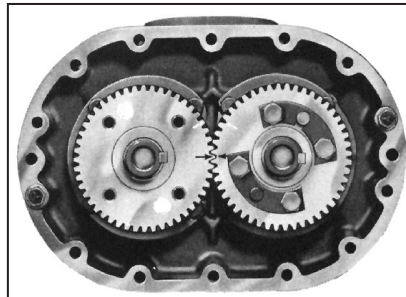
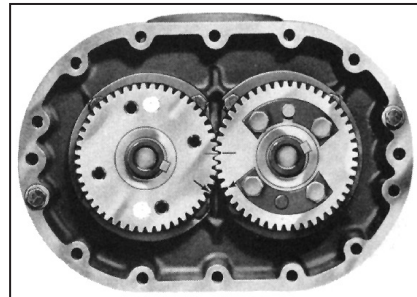

Figure 11 - Position of timing marks
Figure 12 - Position of timing marks
7. Position the timing gears for pulling by first matching the timing marks on the gears. See Figure 11. Turn the drive gear clockwise five teeth and mark a matching reference line on each gear as shown in Figure 12, above. The rotor lobes are now in their most open position. Using a gear puller, the driven gear (left hand helix) may now be removed without jamming the rotors. This gear is in two parts - the gear rim and hub. It is not necessary to disassemble. Do not allow the gears to move from the matched reference line while pulling. Use a light rocking motion while pulling the gear to insure that the lobes have not jammed.
- Install drive gear (right hand helix) on drive rotor (left side). To install driven gear, align reference marks as shown in Figure 12. Install driven gear carefully to avoid damaging any teeth when engaging opposite gear. Secure with gear lockwasher [36] and lock nut [35].